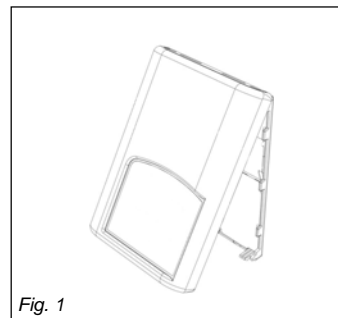

Fig. 1
- Open up by pulling on the bottom side of sensor. (Fig.1)